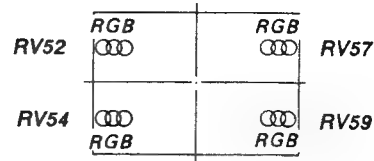

Fig. 1-26.
6. Adjust RV52, RV54 and RV57, RV59 on the DC board to coincide with the R, G and B dots as shown in Fig. 1-26.